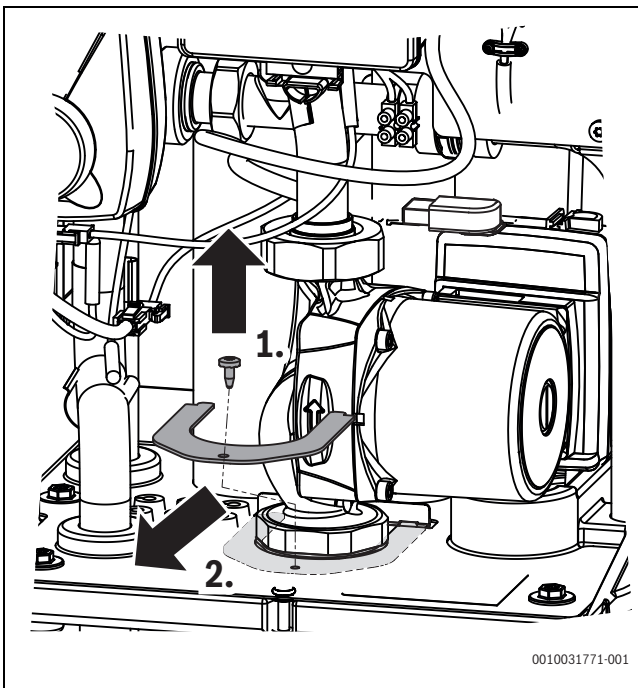

Fig. 39 Remove locking plate
- ▶ Remove the lock screw and pull the locking plate forwards and out (→ Fig. 39).